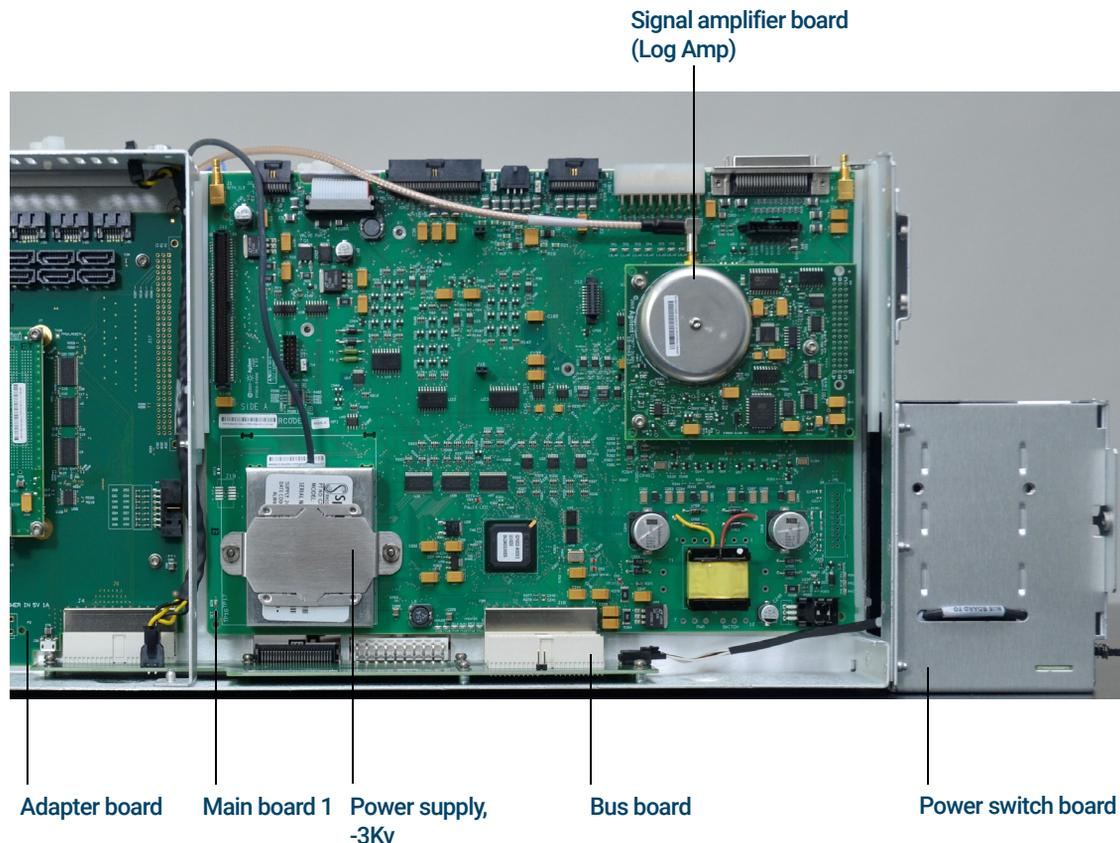

Figure 51. Electronics module, main board 1
- Main Board 1 (See **Figure 51** on page 183.)
- Signal amplifier board (LogAmp) (See **Figure 51** on page 183.)